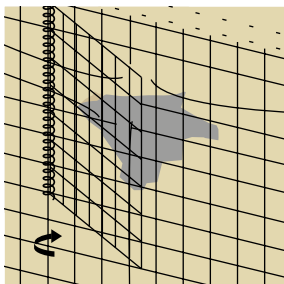

Figure 3
- Secure the left side to the existing wall by means of a coil coiled through the patch and the existing cell panel (*Figure 3*).